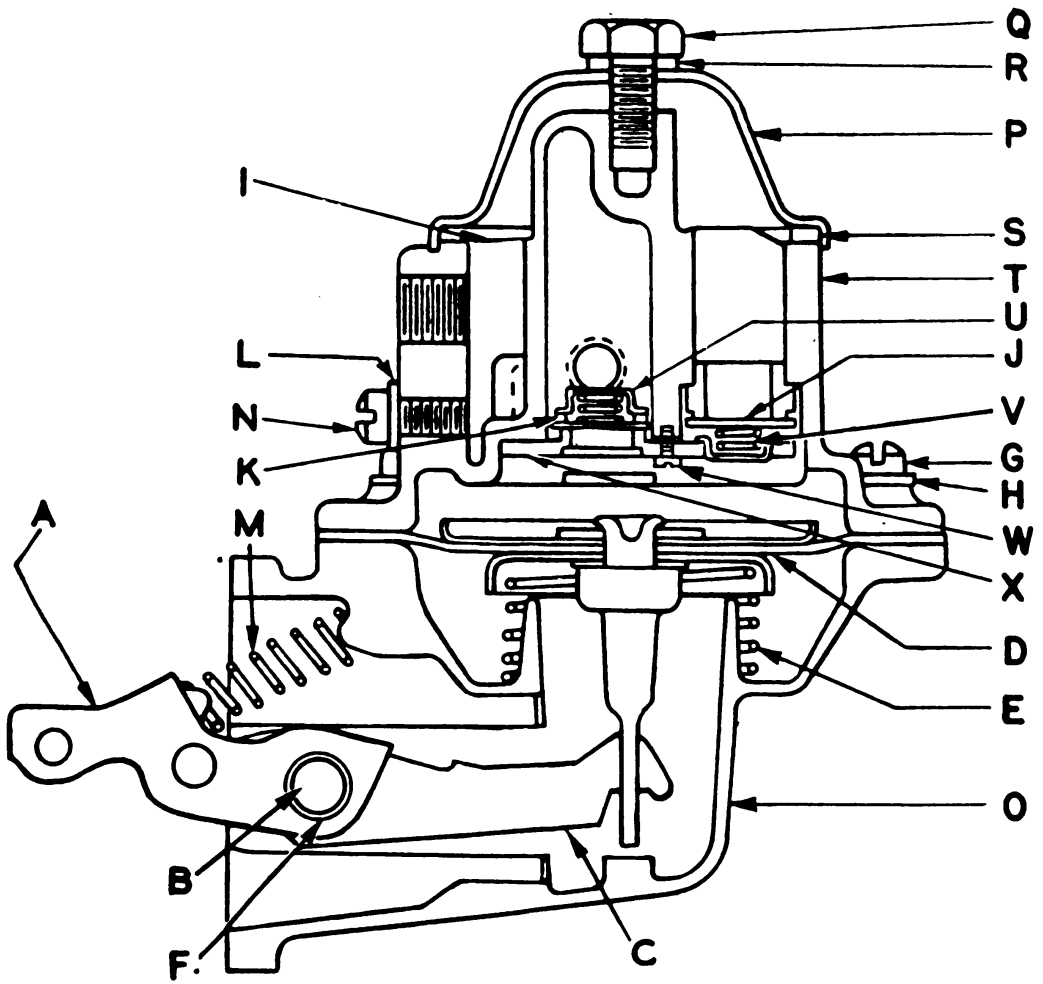

FIGURE 8—FUEL PUMP—CROSS SECTION
- (1) Repairs made without disturbing pump installation.
- (2) Repairs which necessitate removal and disassembly of fuel pump. (Refer to Figure 8.)
d. *Procedure in assembling (Figure 8).*